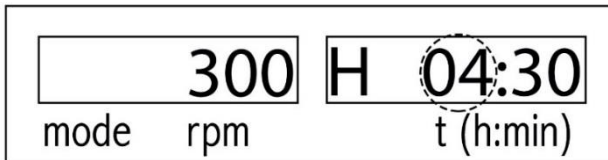

Figure 6: Operating Mode A – setting the hour
- By pushing the right rotary knob again, the hour variable will be flashing and the hour value will be set by rotating the same rotary knob. (in figure 6 The dashed line is a flashing variable in the display).